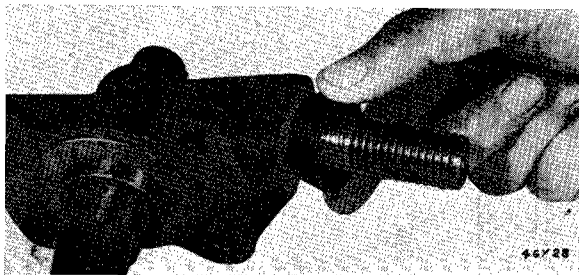

Fig. 16. Fitting rubber seal to vertical link
4. Fit the rubber seal (43) to the vertical link (Fig. 16), screw the vertical link into the bronze trunnion (42) as far as possible, then unscrew it to the first working position.